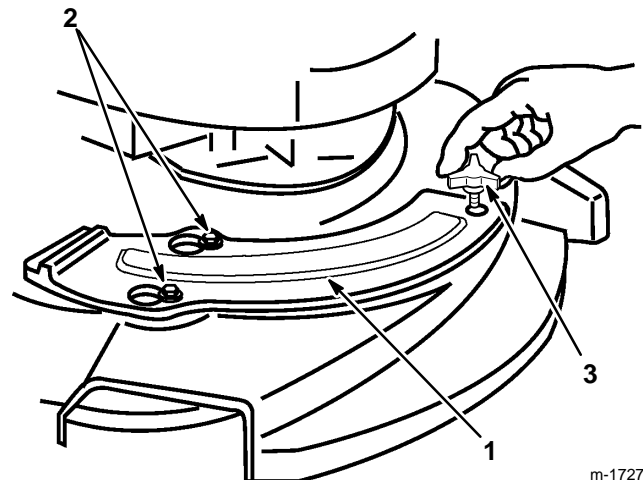

Figure 46
3. Two shoulder bolts on the housing protrude through slotted holes in the mulch plate and do not have to be loosened or removed (Fig. 46). Mulch plate moves over the shoulder bolt heads.
5. Secure with knob (Fig. 46).